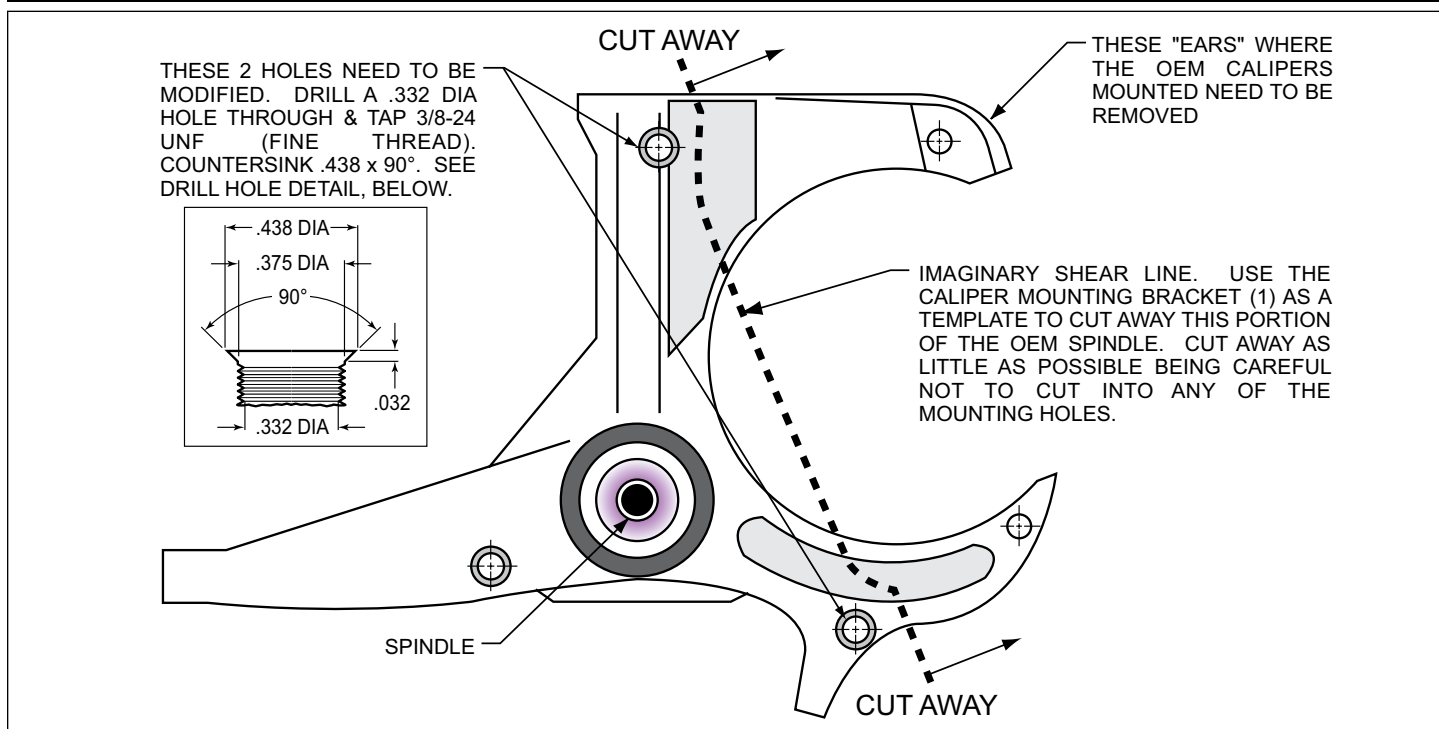

Figure 1. Steering Arm / Spindle Modifications
These modifications should be performed by a qualified machinist. Refer to Figure 1 on the following page as necessary (numbers in parenthesis refer to the parts list on page three). Only one view of the steering arm/spindle is shown, but the modifications need to be performed on both steering arm/spindles.
The two stock holes that will be used to mount the caliper mounting bracket (1) need to be modified (figure 1). Drill a .332 diameter hole through both holes, then tap 3/8-24 UNF (fine thread). Countersink the holes to .438 x 90°. The “ears” that protrude to form a “C” shape need to be removed to facilitate the installation of the Wilwood caliper (22). Using the caliper mounting bracket (16) as a template, mark two cut marks on the steering arm. Remove as little as necessary from the “C” shape, being careful not to cut away any of the mounting holes required to bolt on the caliper mounting bracket (1).